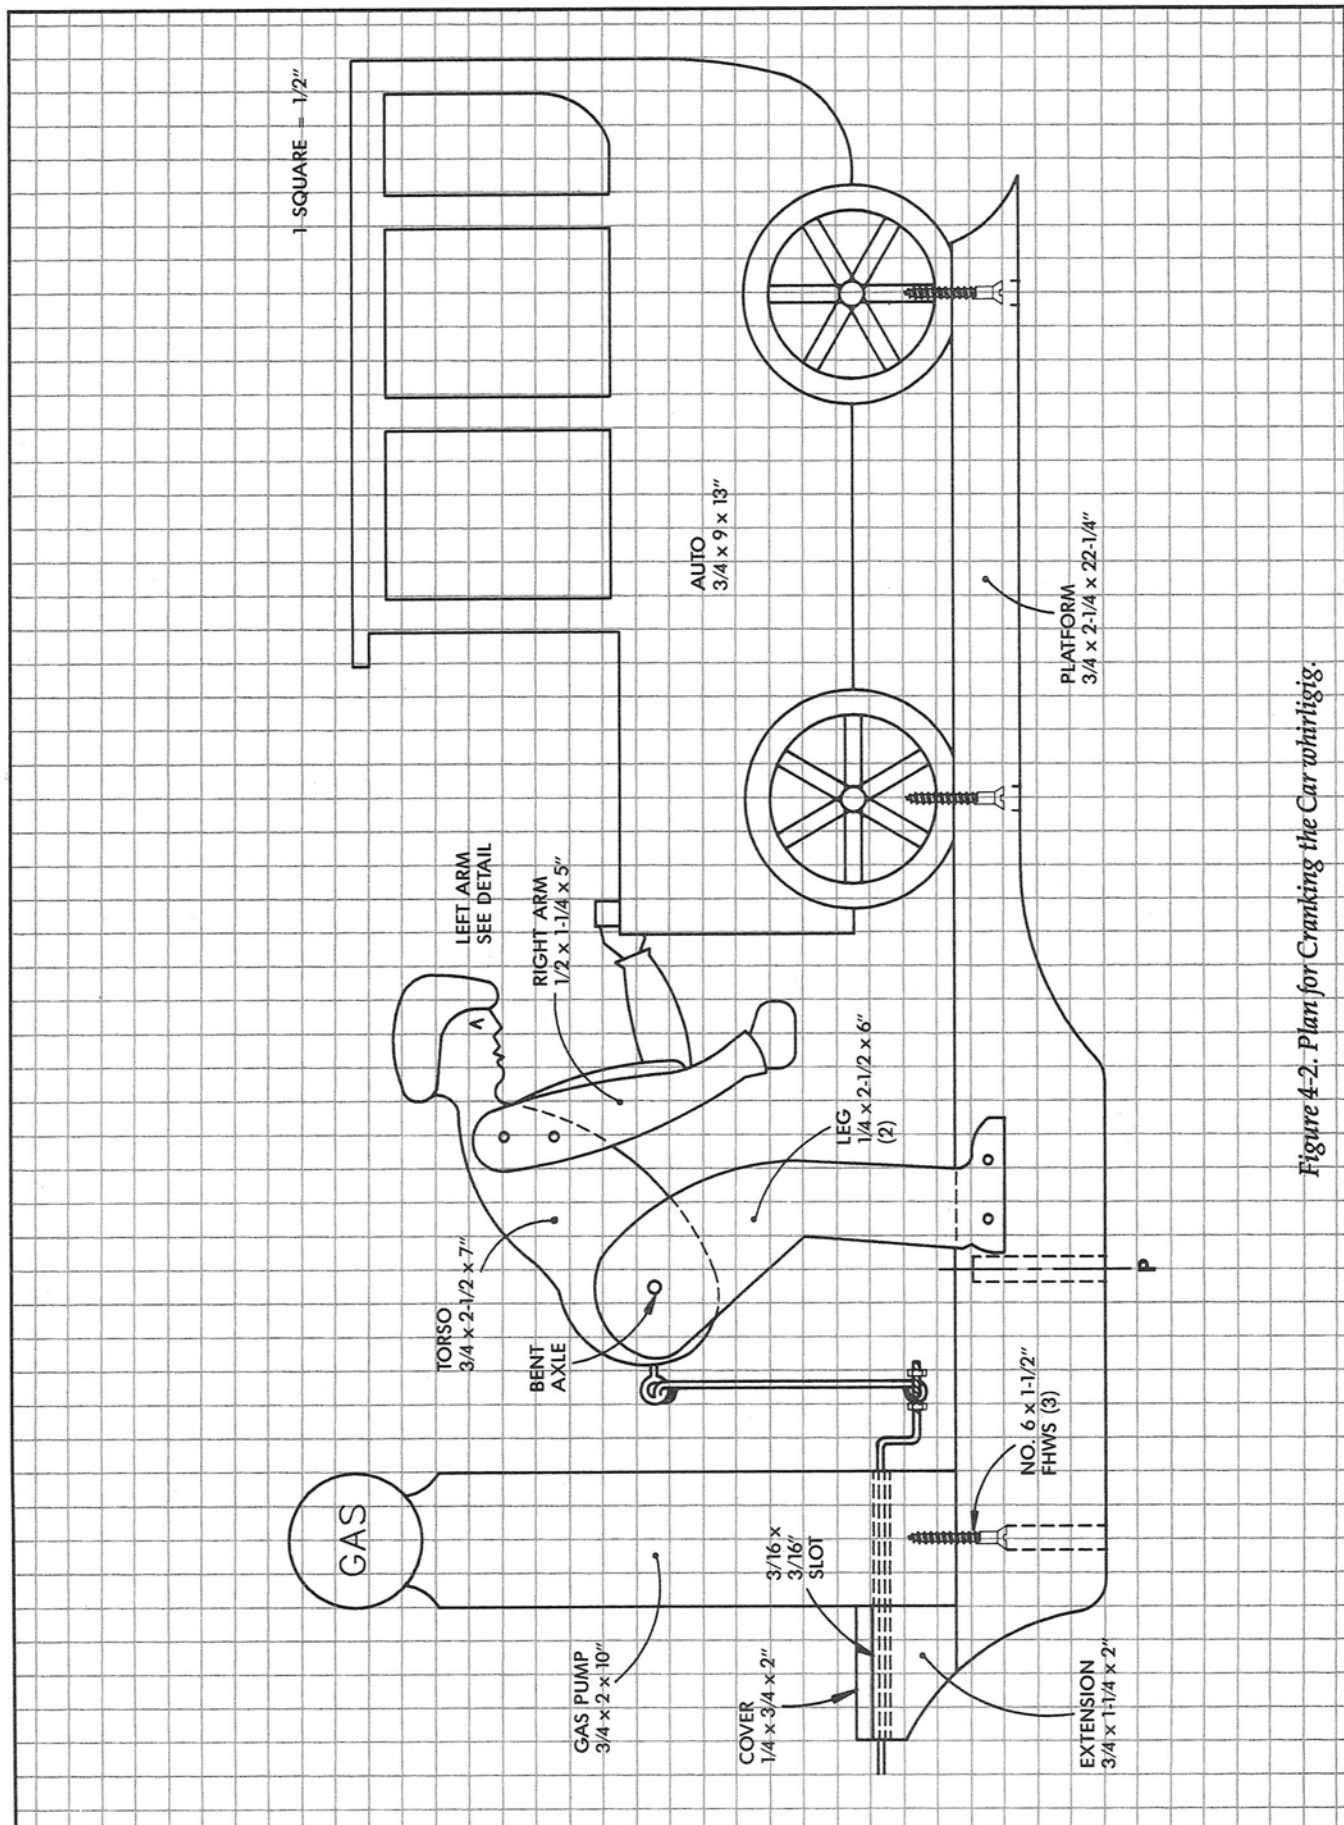

Figure 4-2. Plan for Cranking the Car whirlingig.
1. Cut out the platform and mark the locations of the objects that will be attached to it (Fig. 4-2). Drill a $3/8$ in. hole for the tension pin and cap 6 in. from the front end of the platform. Drill holes for the screws which will hold the automobile in position at 13 and $20-1/2$ in. from the front of the platform.